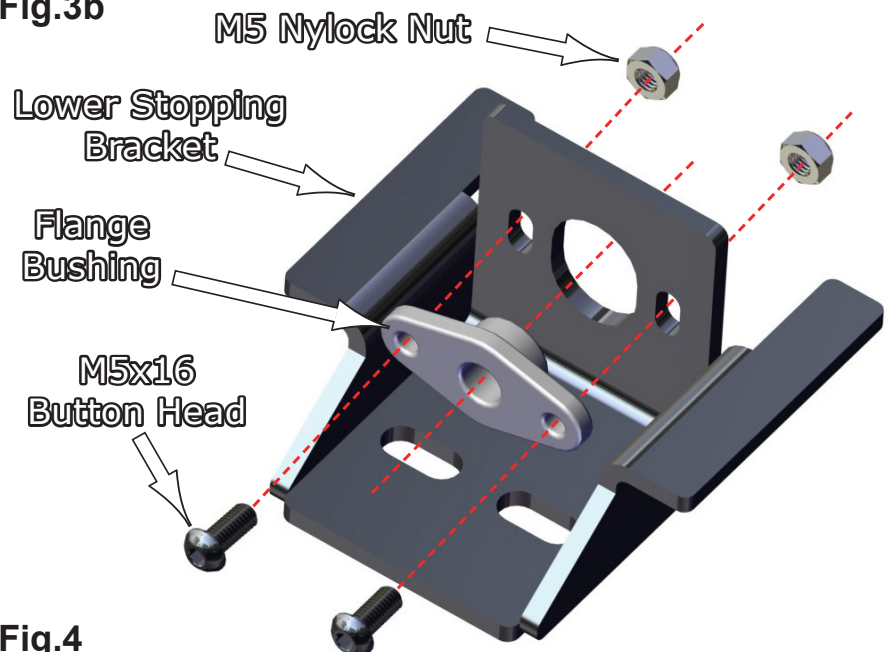

Fig.4
4. After you have removed the tie-downs, now you need to assemble the two (2) **Lower Stopping Brackets**. Insert one of the **Flange Bushings** into the bracket and attach using the **M5x16 Button Head** screws and **M5 Nylock Nuts** provided in your kit, and secure. See **Fig.4**.